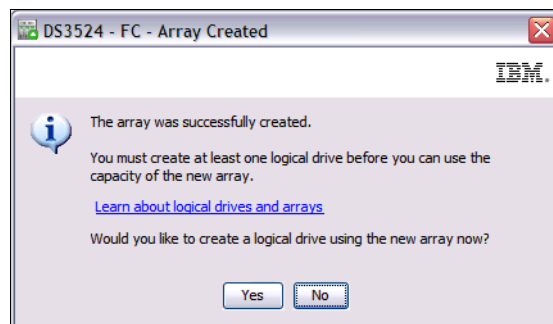

Figure 9-8 Array Created
- The Array Success window (Figure 9-8) appears and confirms that the array is now created. You can click **Yes** to continue with the creation of a logical drive (see 9.4.1, “Create logical drive” on page 233). Select **No** to finish for now.